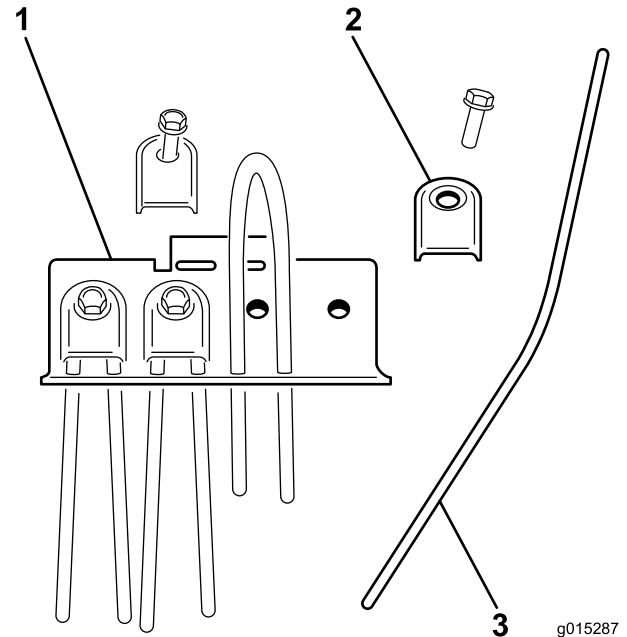

Figure 35
1. Remove the tine retainer and slide the damaged tine out (Figure 35).